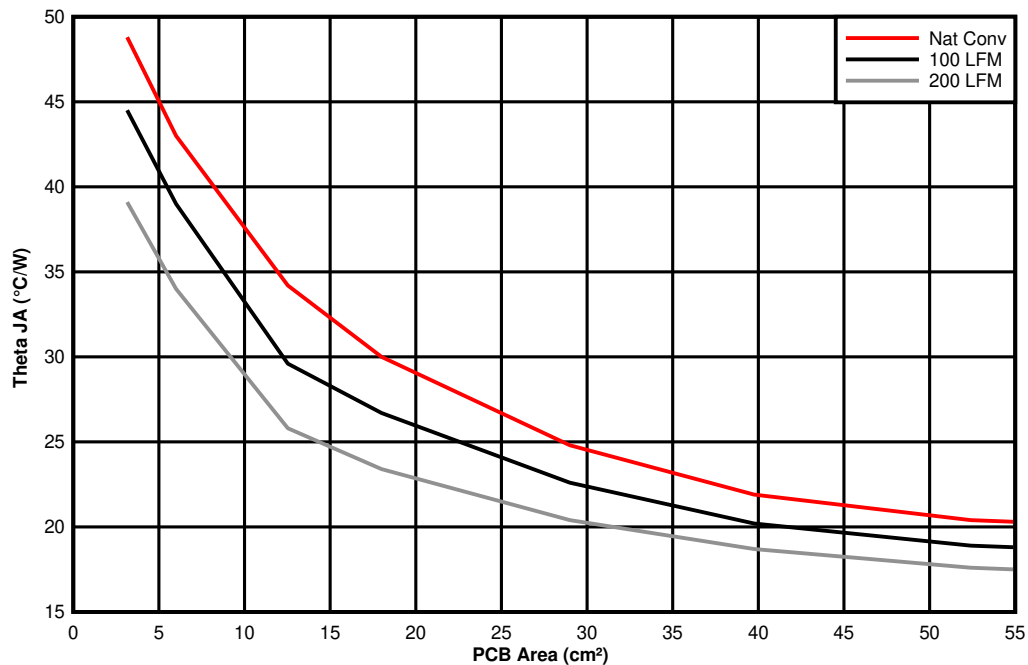

图 11-5. θ_{JA} vs PCB Area
The amount of PCB copper as well as airflow effects the thermal performance of the device. 图 11-5 shows the effects of copper area and airflow on the junction-to-ambient thermal resistance ($R_{\theta JA}$) of the TPSM5601R5Hx. The junction-to-ambient thermal resistance versus PCB area is plotted for a 4-layer PCB.
3. Reference 图 11-5 to determine the minimum required PCB area for the application conditions.